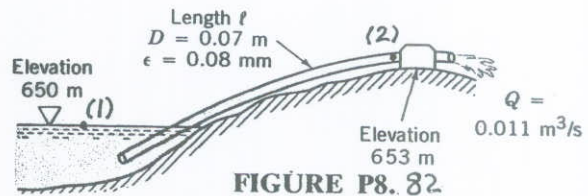

FIGURE P8.82
8.82 Water at 10 °C is pumped from a lake as shown in Fig. P8.82. If the flowrate is 0.011 m3/s, what is the maximum length inlet pipe,  $\ell$ , that can be used without cavitation occurring?